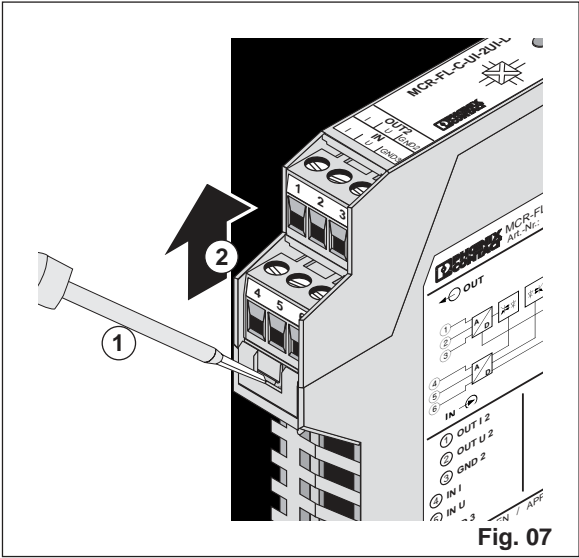

Fig. 07
3.1. Opening the Device (Fig. 07)